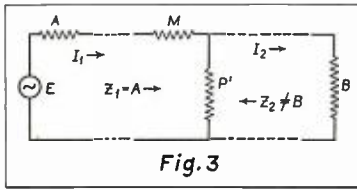

Fig. 3
Curves of equation (3) are plotted in Fig. 5 covering a frequency-ratio range from .1 to 1000 for values of K equal to .95, .99, .999 and unity. These curves portray graphically the part played by the coefficient of coupling in its effect on the frequency range efficiently transmitted. We note that the loss is approximately one decibel or less for a range of frequency ratios from one to the frequency ratio where the reactance curves of Fig. 3 cross the value of unity. This upper frequency ratio is equal to 9 for $K = .95$, 50 for $K = .99$, 500 for $K = .999$ and infinity for $K = 1$. In other words, if we take 40 cps arbitrarily as the lower frequency limit, then the upper frequency limits will be 360, 2000, and 20,000 cycles per second for K equal to .95, .99 and .999 respectively. For K equal to one there would be no upper limit. Other factors may, of course, influence the upper portion of the frequency range but we are not considering them now.